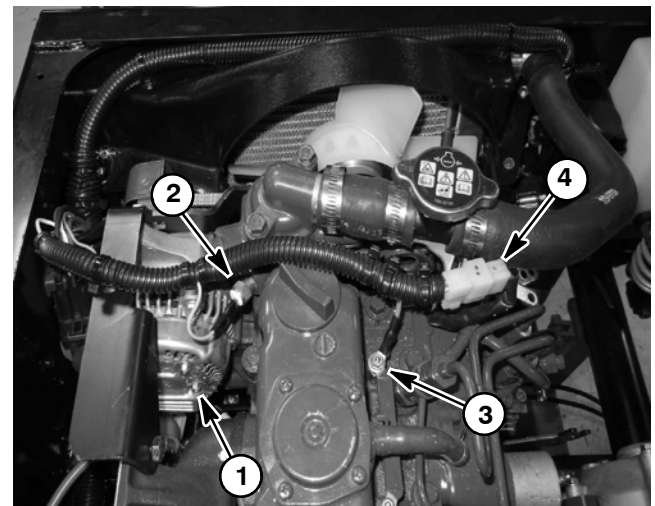

Figure 14
- A. Disconnect main wire harness connections to glow plug bus, temperature sender and engine run solenoid (Fig. 14).
12. Remove four (4) flange nuts, spacers, snubbing washers and cap screws that secure the engine to the engine mounts.
3. Secure engine to engine mounts with four (4) cap screws, snubbing washers, spacers and flange nuts.
A. Connect main wire harness connections to glow plug bus, temperature sender and engine run solenoid (Fig. 14).